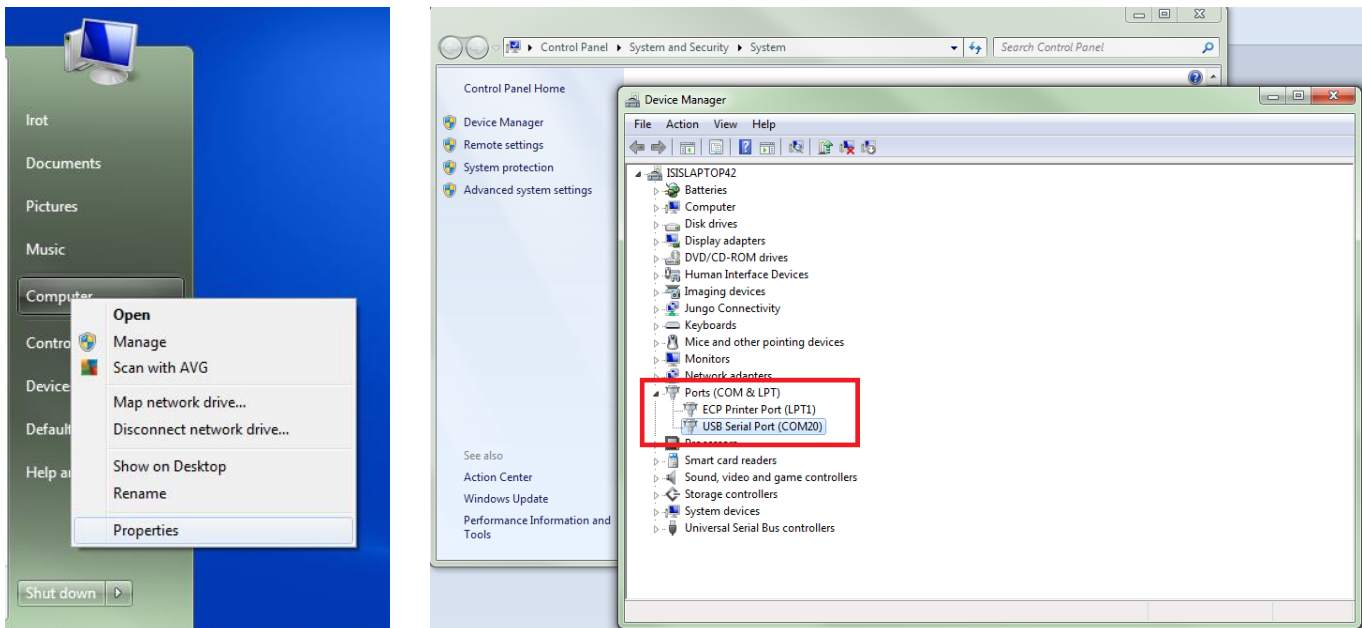

Figure 21: Retrieve the COM port assigned to the USB-to-Serial from the device manager
- Set the COM port that has been assigned to the FTDI USB-to-Serial device as COM##, where the ## is the com port number used. This can be found in the windows device manager. Go to start and right click Computer. Select properties. Select device manager and expand to the Ports section. The device is USB Serial Port (COM##). See Figure 21.